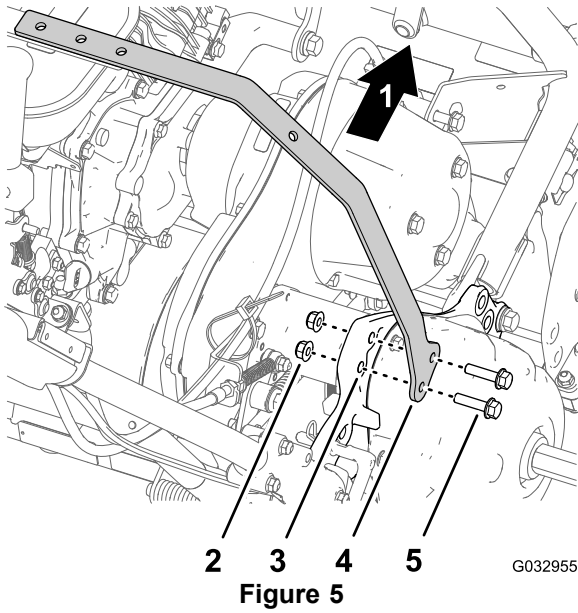

Figure 5
- Align the 2 holes in the right light-bar strap with the 2 holes 9.5 mm (3/8 inch) holes in the right side plate (Figure 5).
- Assemble the right light-bar strap to the right side plate (Figure 5) with the 2 flange-head bolts (3/8 x 1-1/4 inches) and 2 flange locknuts (3/8 inch).